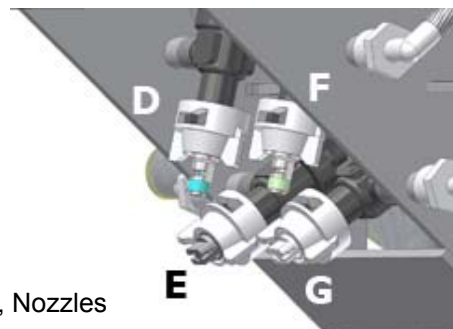

FIGURE 15, Nozzles
The spray pattern and spray rate are controlled by the engine speed, pump pressure, and the nozzle orifice. Referring to **FIGURE 14:** A Pressure Unloader Valve (A) at the lower right rear of the front frame controls pump pressure. There is a Suction Shutoff Valve (B) located at the lower left rear of the front frame. The Drain Valve (C) can be used to flush the spray system, drain the tanks or fill the Spot Sprayer bottle (included). A Strainer (not shown) is located inside each Tank. The Tanks are connected together by common Suction and Return flow plumbing to provide a total capacity of **12 U.S. GALLONS** (45.4 liters). **NOTE:** The Triumph is not capable of selectively drawing from only one Tank. Referring to **FIGURE 15:** There is a pair of low drift nozzles (broadcast (D) & trim (E)) for use while in **LOW GEAR**, and a second pair of low drift nozzles (broadcast (F) and trim (G)) for use in **HIGH GEAR**. [If the Half Gallon Nozzle Kit is installed, the **LOW GEAR** Broadcast Nozzle is replaced by a second **HIGH GEAR**
- Referring to **FIGURE 15**, select the **HIGH GEAR** Broadcast Nozzle (TF-VS 7.5 color coded with a green band) by turning the front Spray Control Valve (I) handle to the left. The rear Spray Selector Valve handle (J) must be pointed forward turning off the **LOW GEAR** nozzles. [If the Half Gallon Nozzle Kit is installed, both Broadcast Nozzles will be used simultaneously.]
- Referring to **FIGURE 15**, select the **HIGH GEAR** Trim Nozzle (**ULD120-08** color coded white) by turning the front Spray Selector Valve handle (I) to the right. The rear Spray Selector Valve handle (J) must be pointed forward turning off the **LOW GEAR** nozzles.